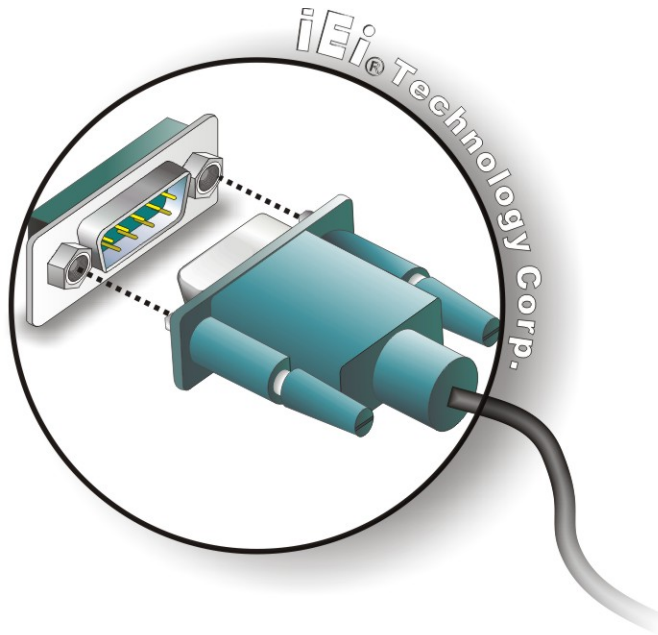

Figure 5-15: Serial Device Connector
- Step 5:** **Insert the serial connector.** Insert the DB-9 connector of a serial device into the DB-9 connector on the external peripheral interface. See Figure 5-15.